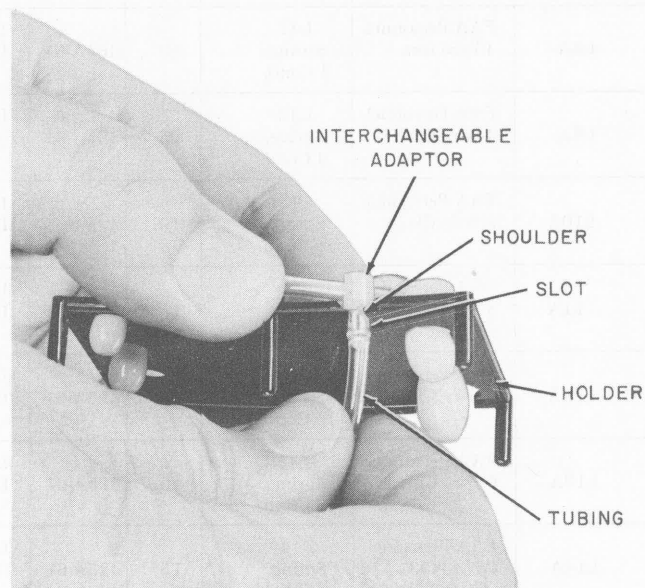

Fig. 4—Adaptor in Holder Slot for Removal of Earpiece Assembly
4.06 Interchangeable Adaptor: To remove the adaptor from the earpiece assembly, wedge the adaptor in the slot of the holder with the slot edges between the adaptor shoulder and the end of the tube (Fig. 4). Work the tubing off the adaptor shaft with the fingers. It may also be removed by inserting the finger nails between the adaptor shoulder and the end of the tubing. **Do not elongate the tubing.** Work the tubing of the replacement earpiece assembly onto the adaptor shaft with the fingers until the end of the tubing is tight against the adaptor shoulder.